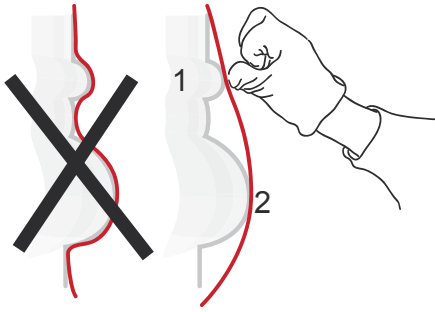

Figure 06
- › Apply the stretched vinyl over the substrate so as to have it stick only to the peaks of the undulation. ((FIG. 06) ① and ②)